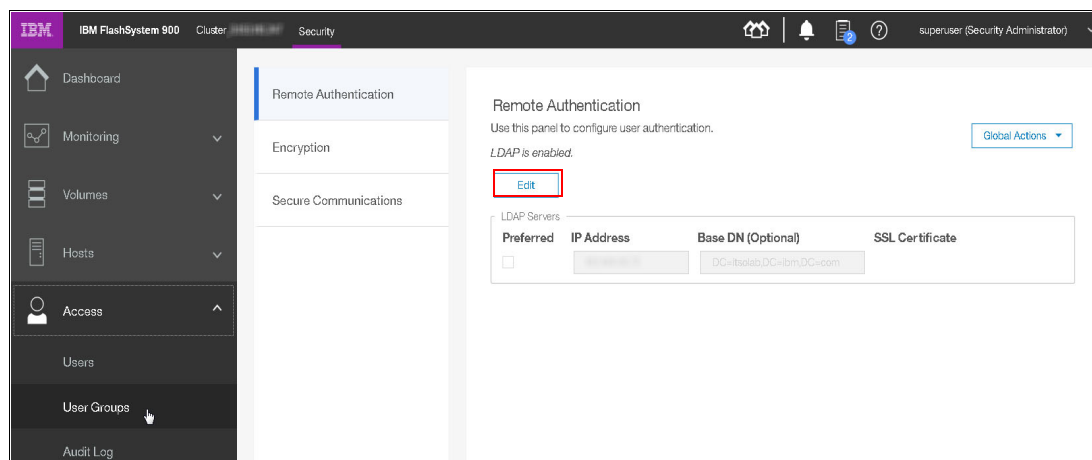

Figure 7-24 Browsing to User Groups
1. Click **Access** → **User Groups** → **Edit**, as shown in Figure 7-24.